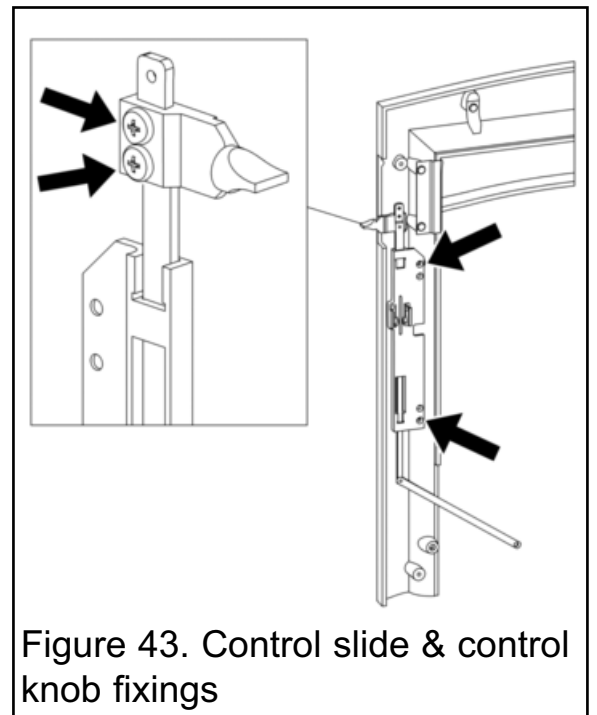

Figure 43. Control slide & control knob fixings
3. Detach the control knob by removing two screws (See figure 43).